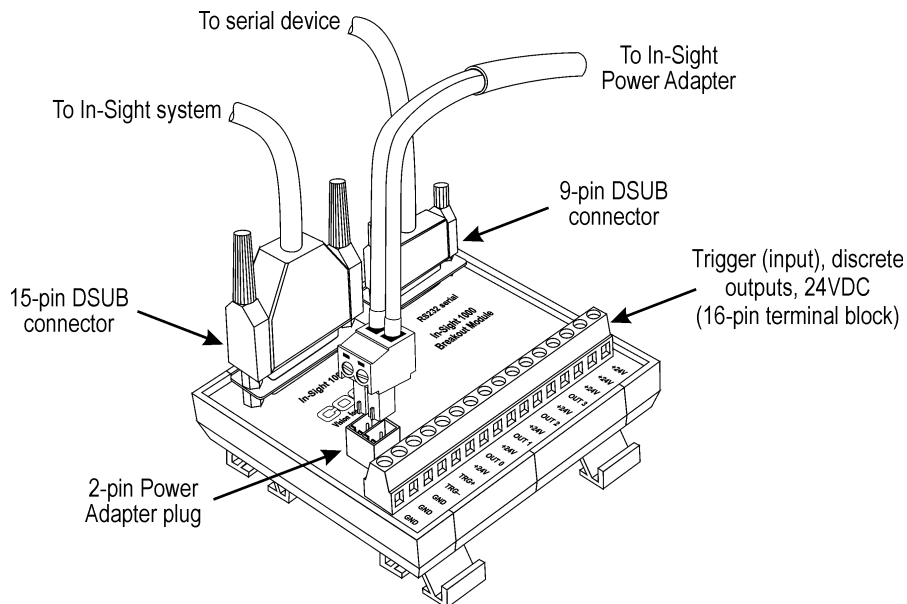

Figure 2-2: Breakout Module Connections
- 6 Plug the wire leads from a 24VDC supply for the +24V power and ground into the 2-pin terminal plug on the Breakout Module. Alternatively, remove the terminal plug and insert the 2-pin terminal plug attached to the In-Sight power adapter into the keyed power adapter port on the Breakout Module (Figure 2-2).